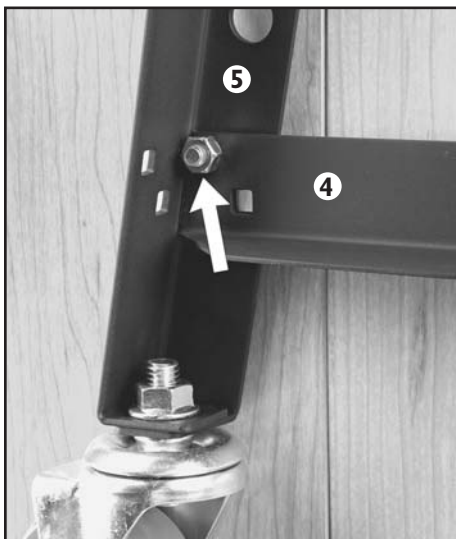

Fig. 4
4. Follow the same procedure as above to attach the left leg (5) and right leg (6) to the Lower Side Stretcher (4) using the bolt hole closest to the inside corners of the legs. **Fig 4 & 5.**
5. Leave this side assembly on your floor or bench to attach the 23 $\frac{3}{8}$ " Upper Front Stretchers (1) and 23 $\frac{3}{8}$ " Lower Front Stretchers (3).